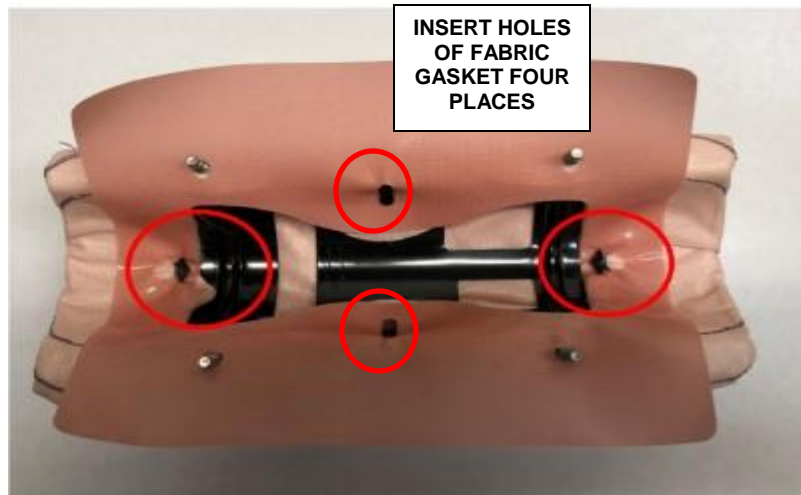

Figure 117 - Fabric Gasket
- h. With the help of a trim tool insert the holes of fabric gasket, four places (Figure 117).